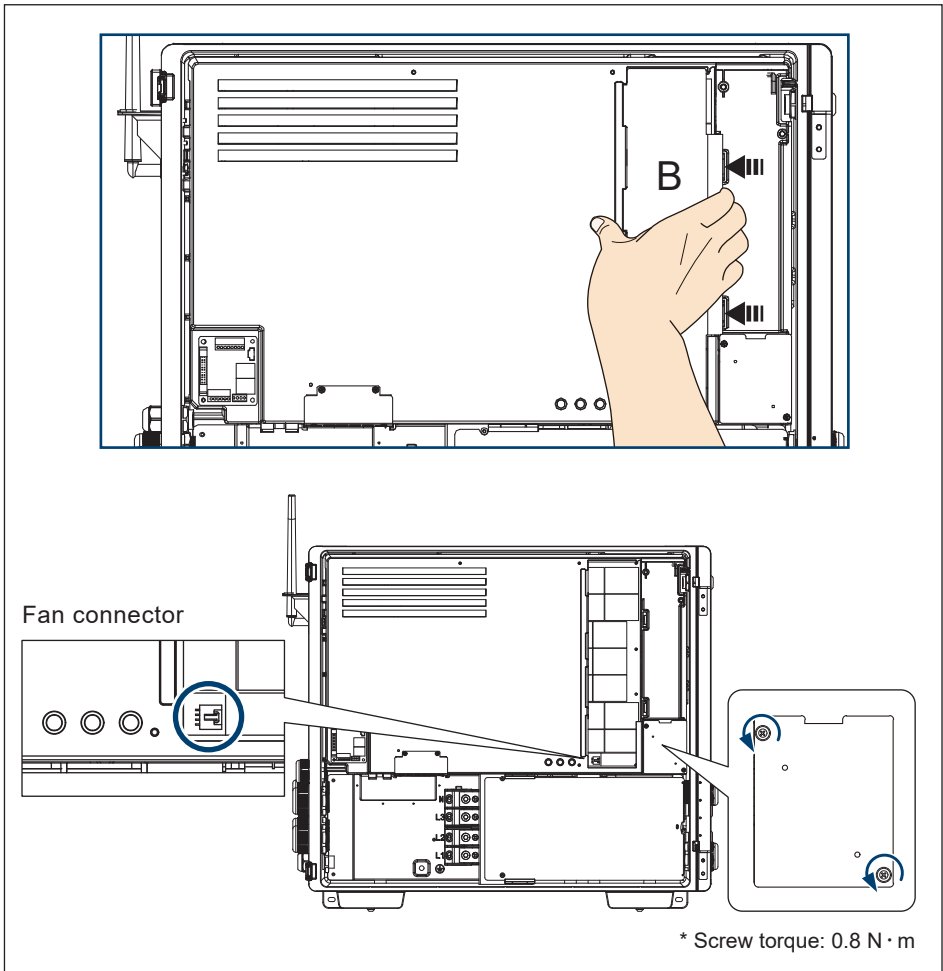

Figure 5-9: Internal fan 1 location & remove the shield cover
- (1) Remove the B cover. (**Figure 5-9**)
- (2) Disconnect the power connector on the LED board. (**Figure 5-9**)